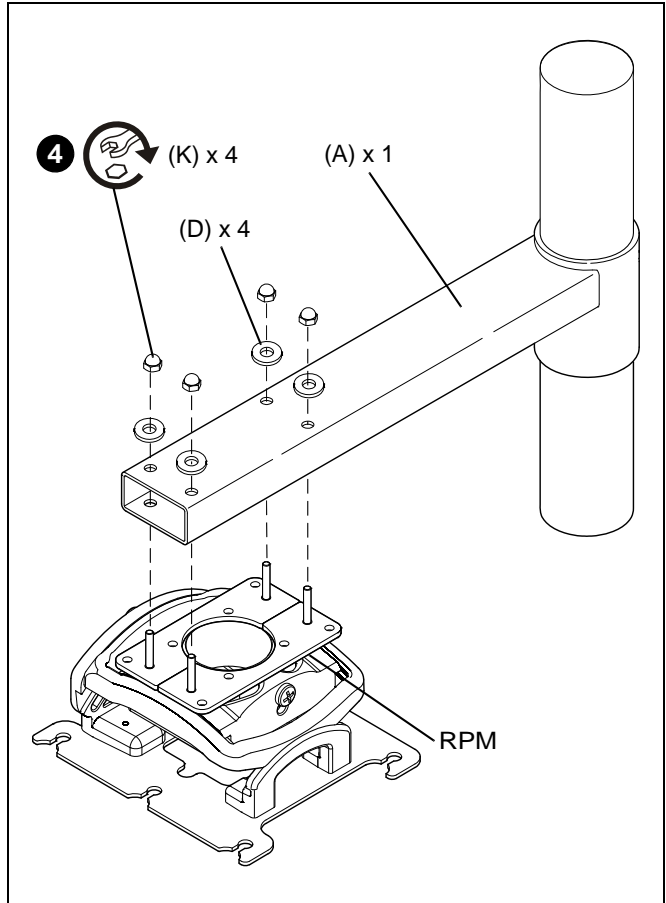

Figure 5
7. Attach RPM with interface plates (B) to projector arm (A) using four 1/4" flat washers (D) and four 1/4-20 acorn nuts (K). (See Figure 5)